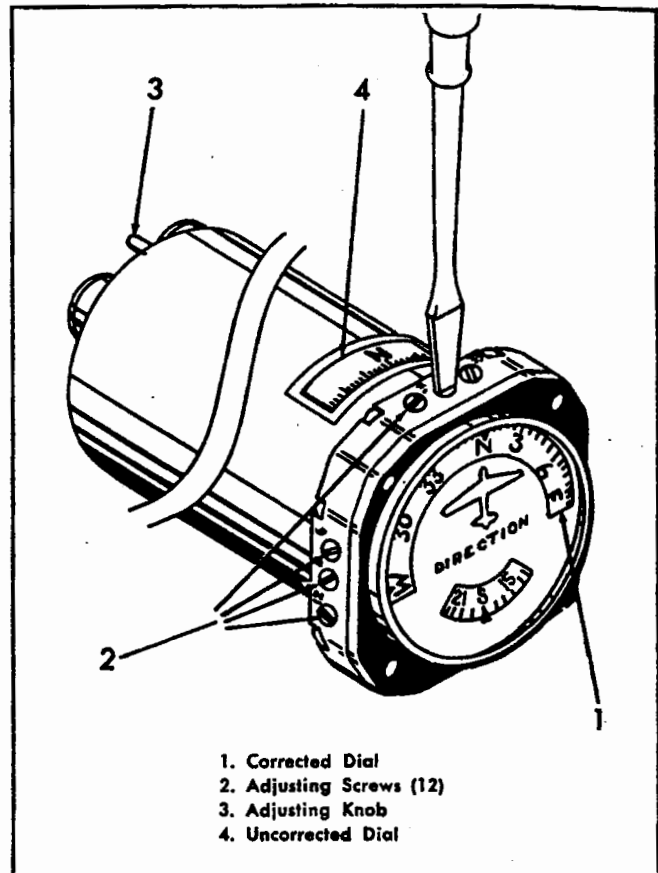

Figure 4-129. P-3 Compass Indicator Adjusting Screws.
4-1400. DESCRIPTION. (See figure 4-129.) In the P-3 compass system, all constant errors are corrected at
e. Find correct magnetic heading for this adjustment point by taking uncorrected dial heading and adding to it or subtracting from it amount of deviation; then turn nearest adjusting screw until corrected dial reads accurate magnetic heading; see figure 4-129.